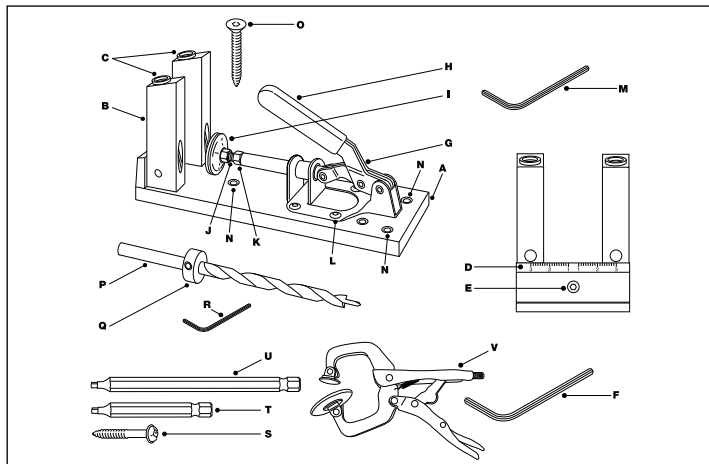

Fig. 1
- Setting up the jig for bench use - **(Fig. 1)**